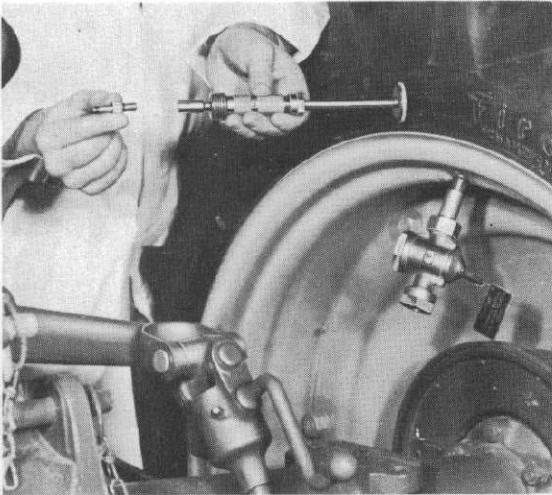

Fig. 13
- e. Remove the core housing from part "B" of the adaptor as shown in Figure 13.